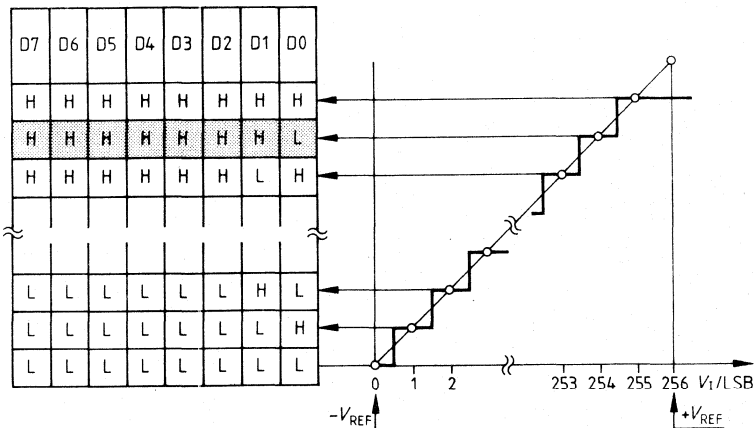

Figure 5
- 6) Dynamic measurements are performed at 100 MHz sampling rate using the typical strobe timing. All specified parameters are derived from the FET of the converter's response to a full scale ($2 V_{pp}$) sine wave input. The analog source impedance is $25\ \Omega$ ($50\text{-}\Omega$ line with $50\text{-}\Omega$ termination). The test circuit is shown in **figure 5**.